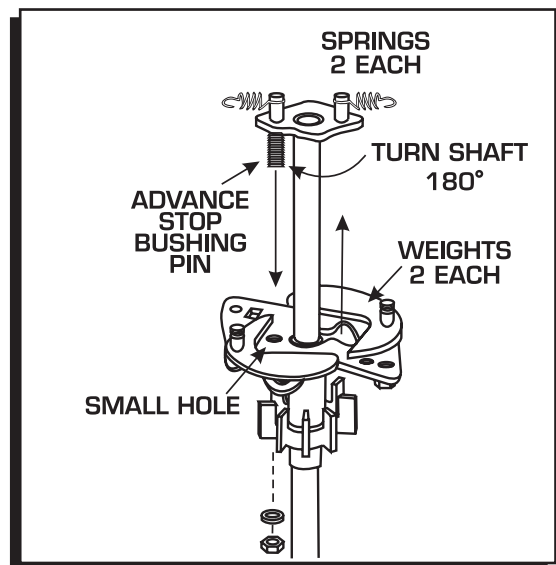

Figure 11 Locking Out the Advance.
- d. Rotate the shaft 180° and insert the advance stop bushing pin into the small hole on the advance plate (Figure 11).